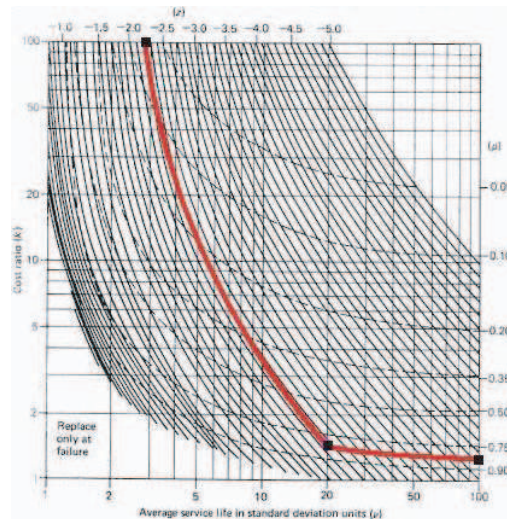

Figure 7: Problem 10 Glasser's Block graph
- (b) The most convenient way of solving the problem with the provided information is to use Glasser's graph for block replacement (Figure 7).